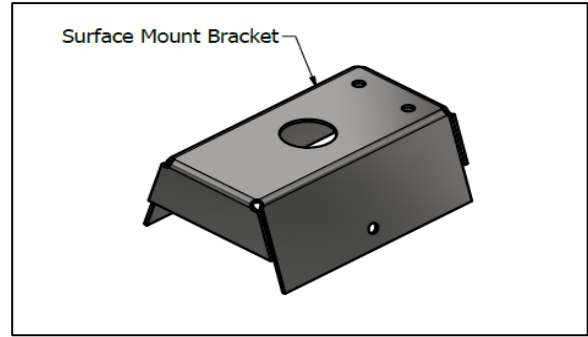

Figure 7
- For surface mounting, use the bracket shown in Figure 7.